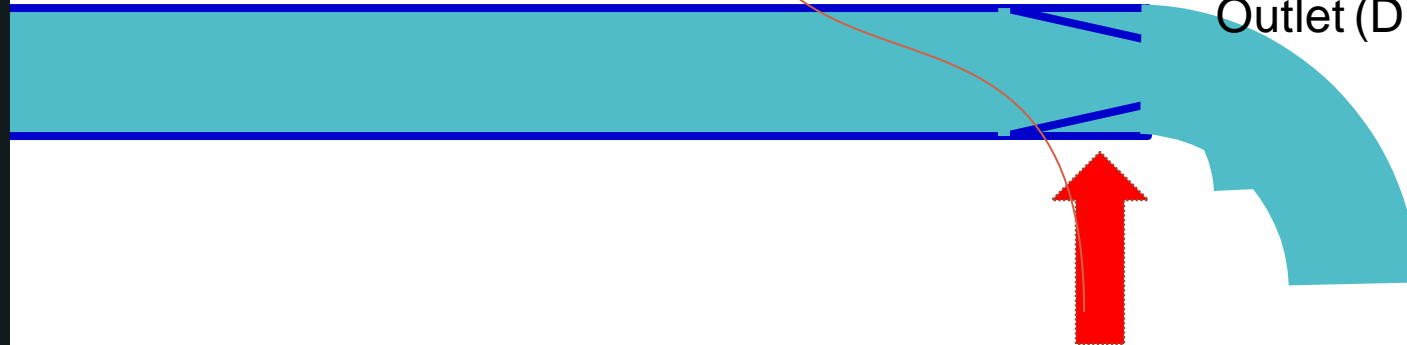

Fig2. water Pipe analogy
- Gate is similar to control in the figure 2